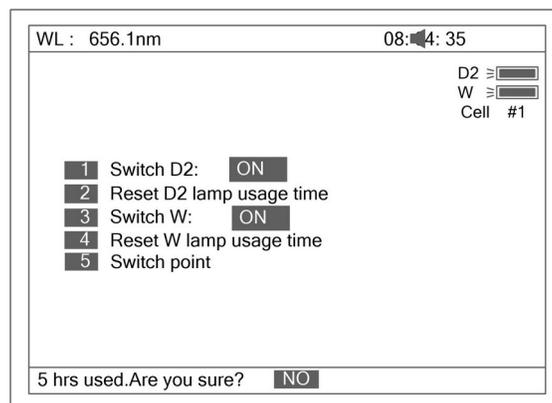

Fig 83
4. Press [4] in Fig 79 to reset usage of W (Fig 83). Press [Λ] or [v] to select “Yes” or “No”, and then press [ENTER].